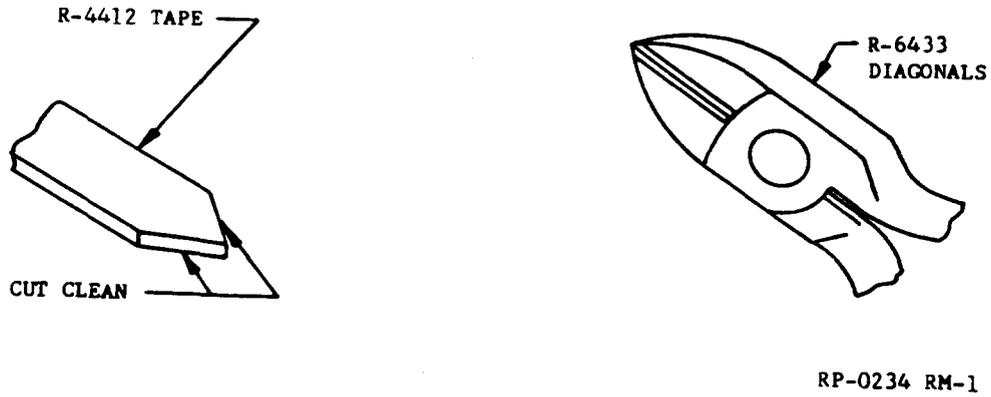

FIG. 6 PREPARING TAPE FOR LOADING
5.52 Prepare the end of the tape by cutting to a two sided point with the R-6433 Diagonal Cutters or similar tool. Be sure the cutting edges of the tool are sharp enough to avoid burring the tape edges (refer to FIG. 6).